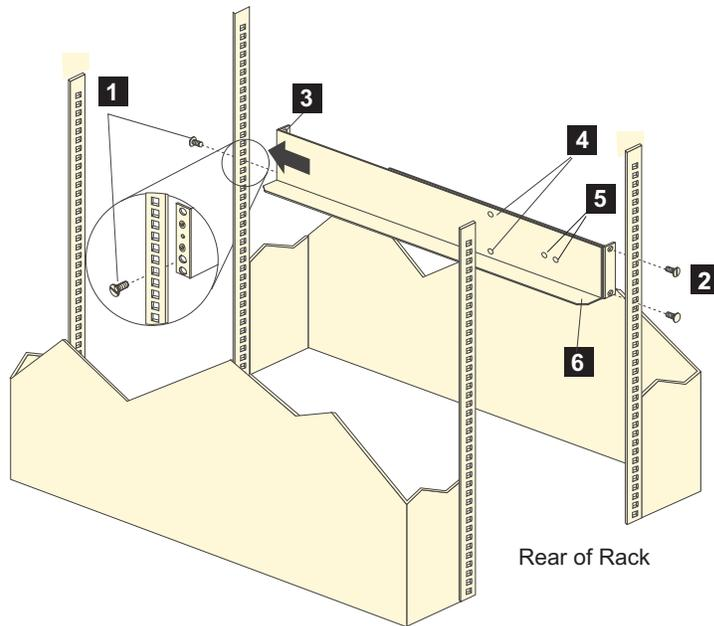

Figure 15. Installing the support rails
**Note:** Refer to Figure 15 on page 32 while performing these steps.
**Note:** The support rails are not marked as Left or Right. However, each rail can be correctly mounted on only one side of the rack cabinet. The rails should be mounted with the alignment pins at the back of the rack. Figure 15 on page 32 shows the installation of the left support rail.
2. Using a #2 Phillips screwdriver, remove the four screws from the rails (two screws in each rail). See **4** in Figure 15 on page 32. If you do not remove these screws, the storage subsystem will not fit securely.